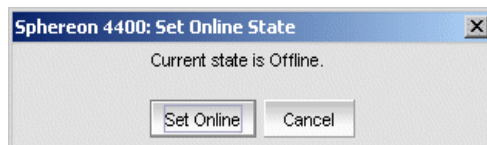

Figure 4-17 Set Online State Dialog Box
1. Select *Set Online State* from the *Maintenance* menu (*Maintenance>Set Online State*). The *Set Online State* dialog box appears (Figure 4-17).